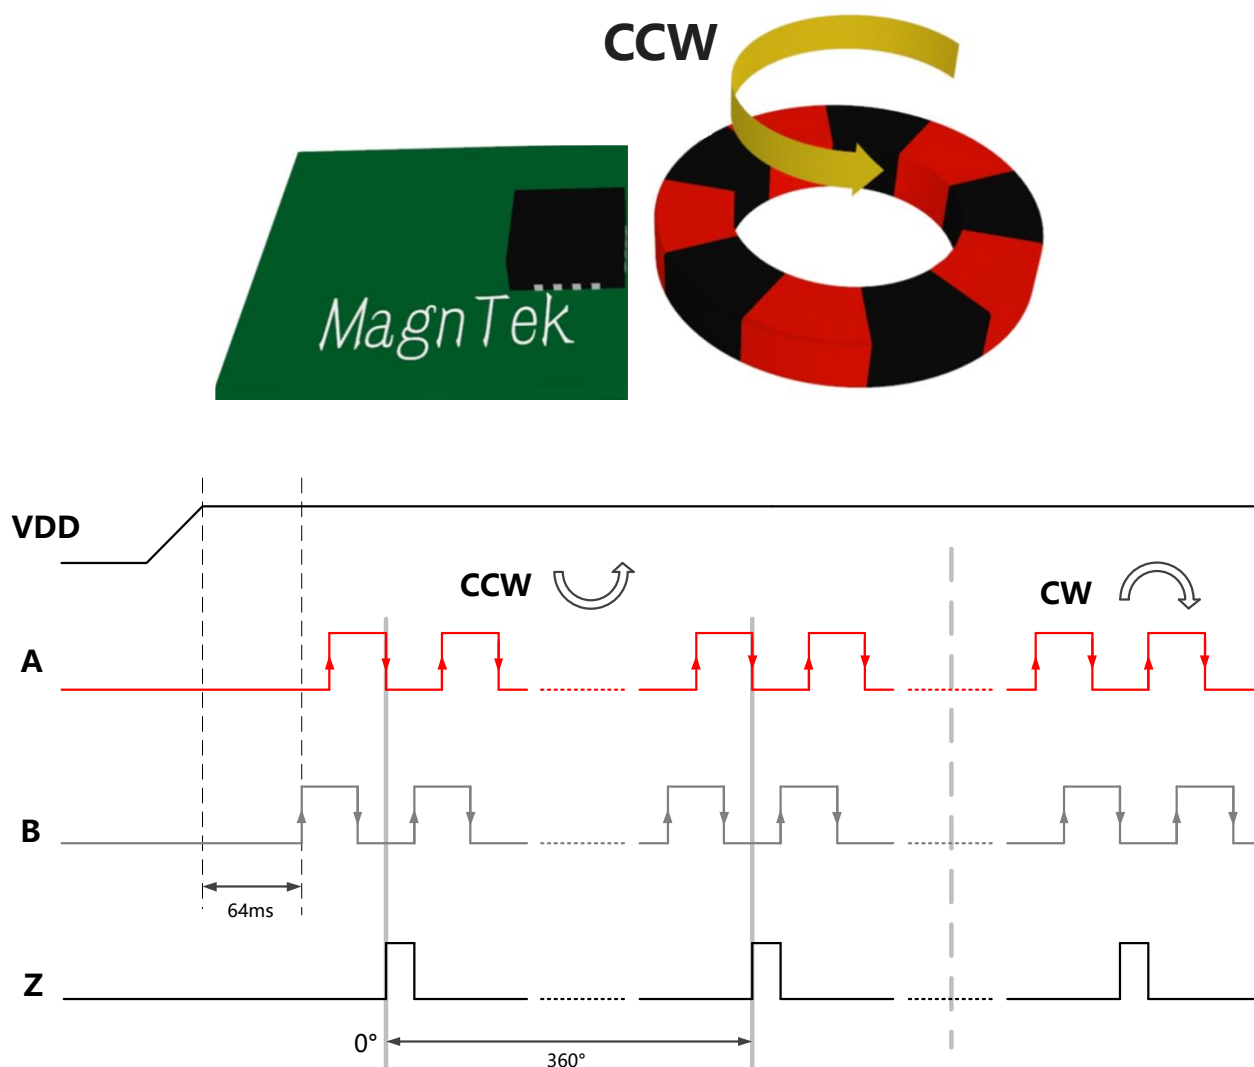

Figure-8: ABZ output with VDD power on
As shown in Figure-8, when the magnet rotates counter-clock-wise (CCW), output B leads output A by 1/4 cycle, when the magnet rotates clock-wise (CW), output A leads output B by 1/4 cycle (or 1 LSB). Output Z indicates the zero position of the magnet. After chip power-on, the ABZ output is blocked for 64ms to guarantee proper output.